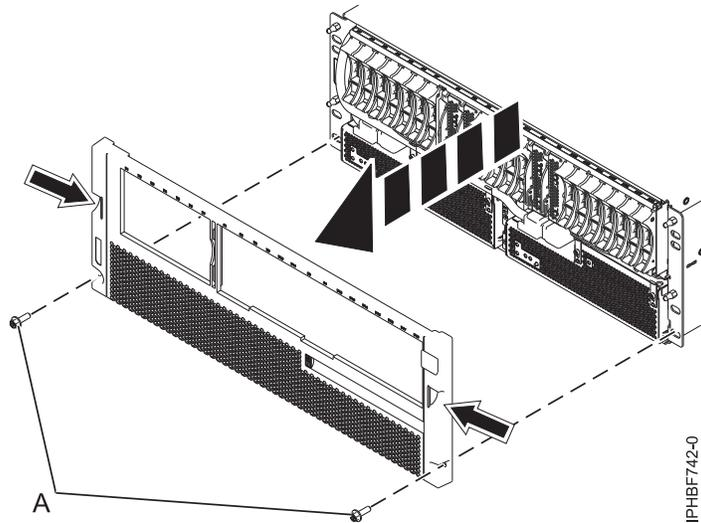

Figure 38. Removing the service information holder and bezel
- a. Remove the two M5 securing screws (**A**) as shown in Figure 38 on page 47.